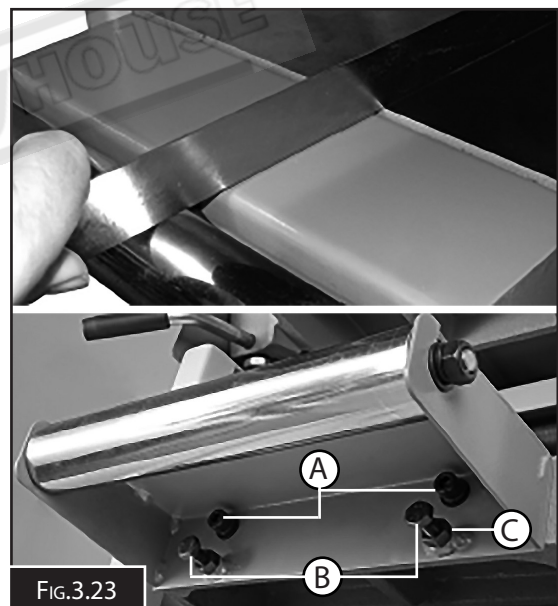

FIG.3.23
1. Place a straight edge across the thicknessing table and guide roller and check they are both in line with each other. (Fig.3.23)
2. If adjustment is required, loosen the two cap head bolts (A) and adjust the Hex bolts (B) until alignment is reached, tighten the nuts (C) to lock the setting. Re-tighten the cap head bolts (A), (Fig.3.23)